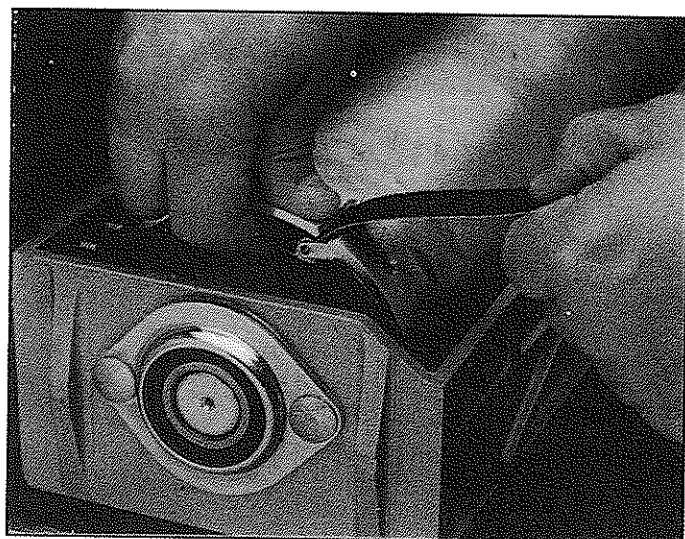

Figure 17
2. Using either a precut strip or one which you have cut for use, you begin the abrasive strip installation by inserting the tip of the tapered strip into the slot in the left side of the drum while depressing the clip (Figure 17). Approximately one inch of material should be inserted into the slot to make the connection in the abrasive clip. Release clip pressure once the inserted tapered end is securely loaded in the clip jaws.